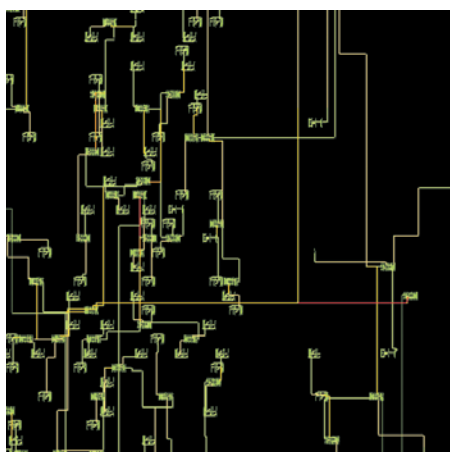

Figure 3: The option highlights the locations in signal lines that are subject to Joule heating failures
- Temperature scaling factor adjusts results based on new temperature (see Figure 3)